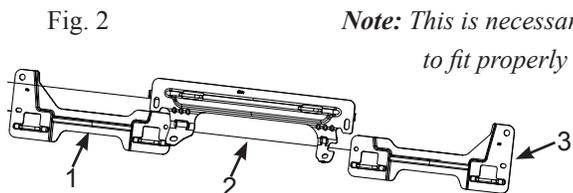

Fig. 2
- D. Also remove the remaining two 13mm nuts holding lower child restraint brackets (3 pcs) and remove the brackets from the vehicle. (Fig. 2) or bend brackets down.